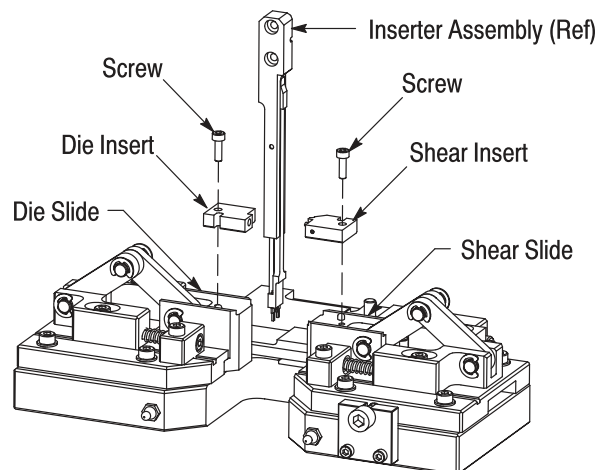

Figure 19
7.1. Die Insert Replacement (See Figure 19)
7.2. Shear Insert Replacement (See Figure 19)